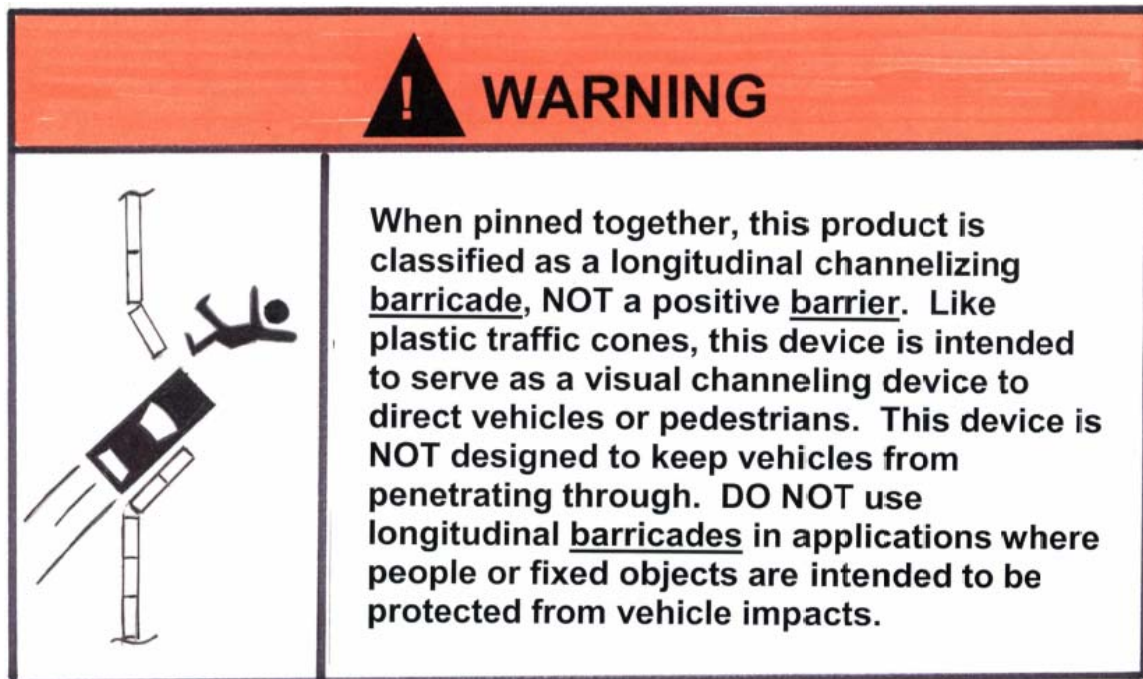

Figure 1 – Example of a possible Plastic Water-Filled Longitudinal Channelizing Barricade Decal
2. Must include a recognizable graphic showing the possible consequences if the device is not used properly. Thus, for longitudinal channelizing barricades (LCBs), a graphic needs to be included that depicts possible vehicle penetration through the device, see possible example in Figure 1.
10. Devices that meet NCHRP 350 Test Level (TL) 3, which are rated to prevent vehicle penetrations when impacted at 100 km/h at 25 degrees, will NOT require a warning label. However, IF versions of the device are available that prevent vehicle penetrations only at reduced speeds (i.e. – speeds less than TL-2 = 70 km/h or TL-1 = 50 km/h), then these devices need to be labeled to warn end users of this impact speed limitation.